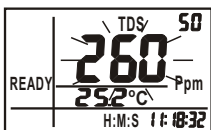

Fig .1 (8306)
7. Press **CAL** key for more than 2 sec. To begin the calibration. The TDS value will blink on the LCD.(Fig. 1)